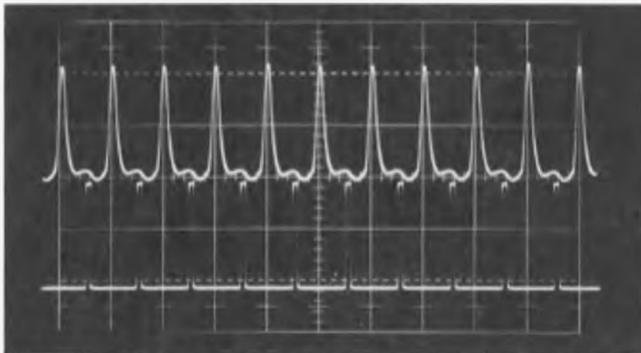

Fig. 4-9. Crt display showing correct adjustment of fast period capacitor C115F.
b. Set the Type 547 TIME/CM (B) switch to $1 \mu\text{SEC}$. Push in the PULL TO INVERT switch on Channel 2 of the Type 1A1.
d. Using the Type 1A1 POSITION controls, put the peak of the first pulse from the Type 114 to some reference point on the first pulse from the Type 180A (see Fig. 4-9).
e. Adjust capacitor C115F (see Fig. 4-10) so that the peaks of the pulses from the Type 114 occur at the same point on each succeeding pulse from the Type 180A as shown in Fig. 4-9. Allowable error is 3%, but it is possible to adjust much closer than this.